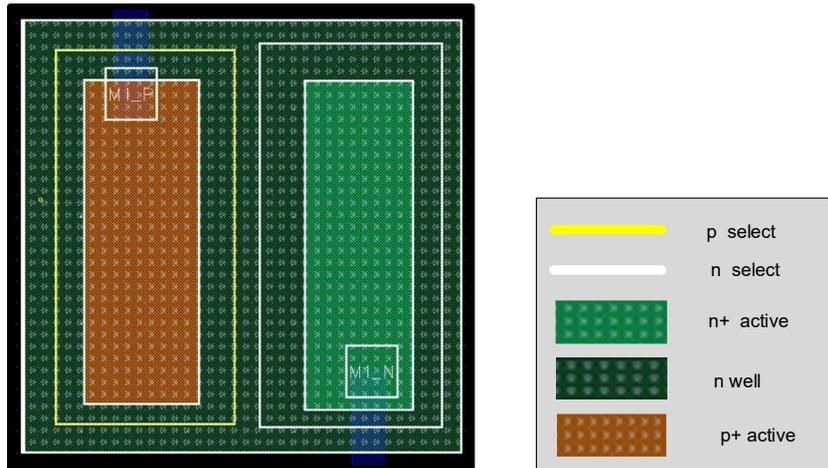

Figure 3: Simple P+ Diode Layout, Cross-sectional View
For the purpose of this lab, we will use the p+/n-well diodes and layout each diode in its own n-well, as in Figure 3.
**Create the layout for a diode.** This diode will be used as part of a pad protection circuit that is discussed in the next section. When used in pad protection circuits, the area of the anode should be quite large. Make a square layout of your diode with the total area about 1/4th that of the bonding pad using the floorplan for the layout shown in Figure 3.